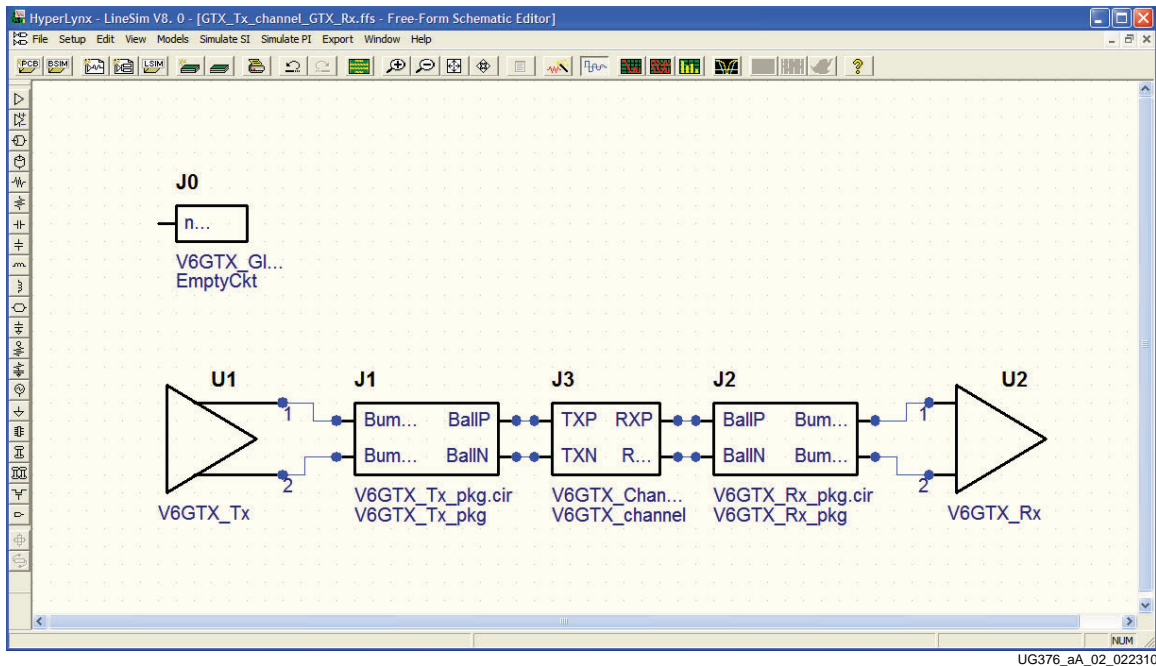

Figure A-2: J0 Symbol
2. What is the J0 symbol on the schematic screen (Figure A-2)?